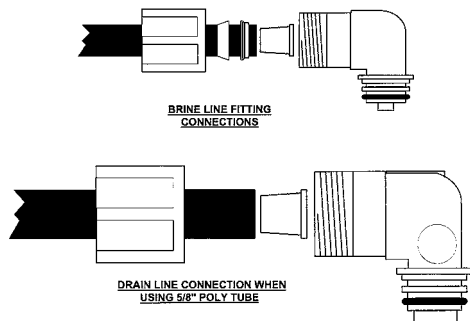

Figure 6a
- The drain connection may be made using either 5/8" polytube (See figure 6a, page 5) or a 3/4" female adapter. If soldering, joints near the drain must be done prior to connecting the
- Connect the brine line found in the salt keeper to the brine connection on the control valve. The control valve has a standard refill elbow to which a 3/8" flexible tube can be connected, see figure 6a, page 5. (An optional elbow can be ordered which accommodates a 1/2" flexible tube for a high regenerant draw rate situation). Both elbows use the same refill flow control and retainer. Do not connect the other end of the brine line to the safety brine valve in the salt keeper at this time. Make sure the floor is clean beneath the salt tank and that it is level and smooth. No grid is required with standard brine tank as softener is programming as prefill.